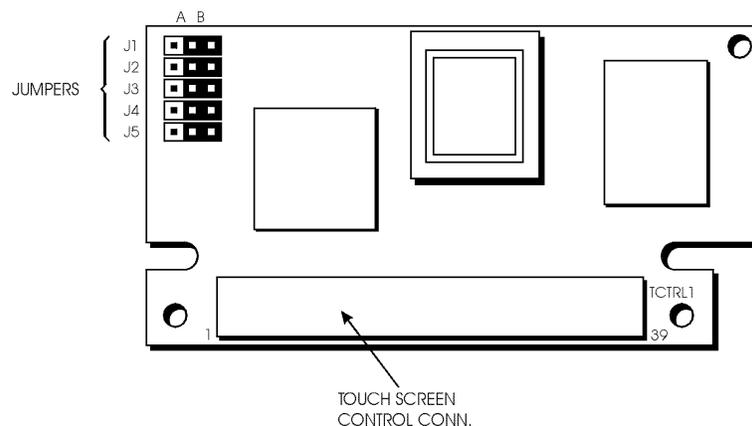

Figure 3-18. Touchscreen controller card.
3. Remove the touchscreen controller card (see Figure 3-18).